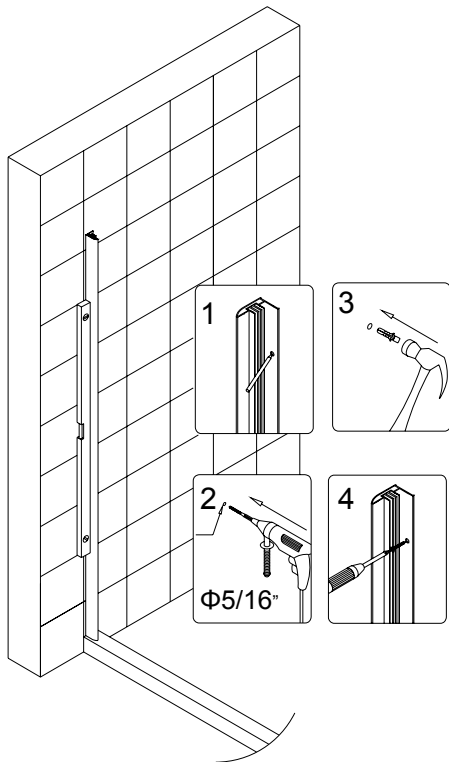

Fig 1
1. Remove the **Wall profile (01)** (this is the external part of the wall and glass profiles set with no holes along the surface side) and place it against the wall on the threshold in the designated position. Note that this part of the profile piece should be fastened as shown in Fig.1. Make sure it's leveled and plumbed. Mark the drill holes on the wall. Drill the holes, insert **Wall Anchors (07)** and attach the external profile wall profile to the wall with the **Screw ST4.2x30 (10)**. See Fig.1 for details.